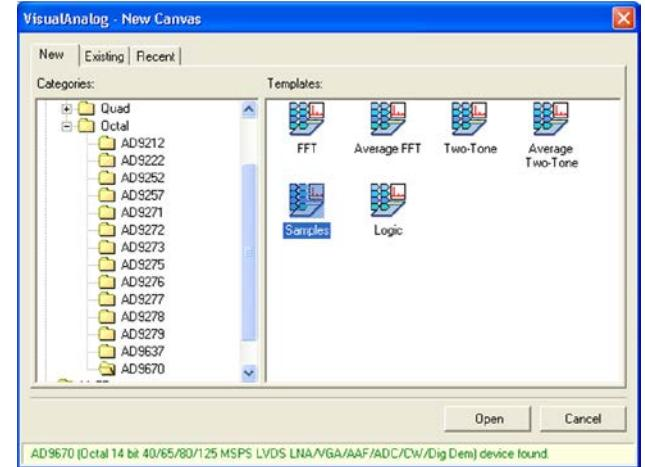

Figure 6. VisualAnalog Canvas Selection Window
- Launch the VisualAnalog software to use the canvas templates listed in the AD9670 directory in the **Categories** pane (see Figure 6). The **Samples** canvas shows time domain output samples vs. sample count.